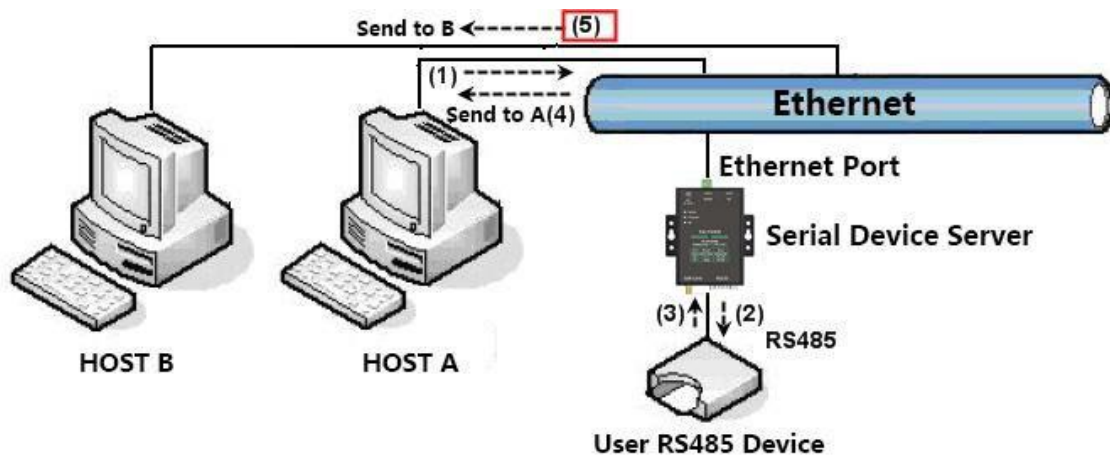

Figure 49 Multi-host function demonstration
As shown in Figure 49, in the normal mode, when two hosts: host A and host B are connected to the serial server at the same time, host A sends (1) command, RS485 device receives (2) command, RS485 device returns (3) command, but the serial port server will send (4) to host A and (5) to host B at the same time. Since the host B did not send the query, but it also received the response command (5), the host B may generate a communication abnormal error. In the multi-host mode, there will only be command (4) but not command (5), because the serial server will automatically remember the host that needs to be returned, and only return the instructions to the most recent communication host, and the query of host A will only reply to A, host B queries and replies to host B.
As shown in Figure 49, if the serial device (RTU device) is used as the master station and the network port device (Modbus TCP device) is used as the slave station, and there are multiple network port slave devices at the same time. At this time, you can use the method described in 5.2.2 Client Connecting Multiple Servers to let the serial port server as a client connect to these multiple network port devices at the same time.